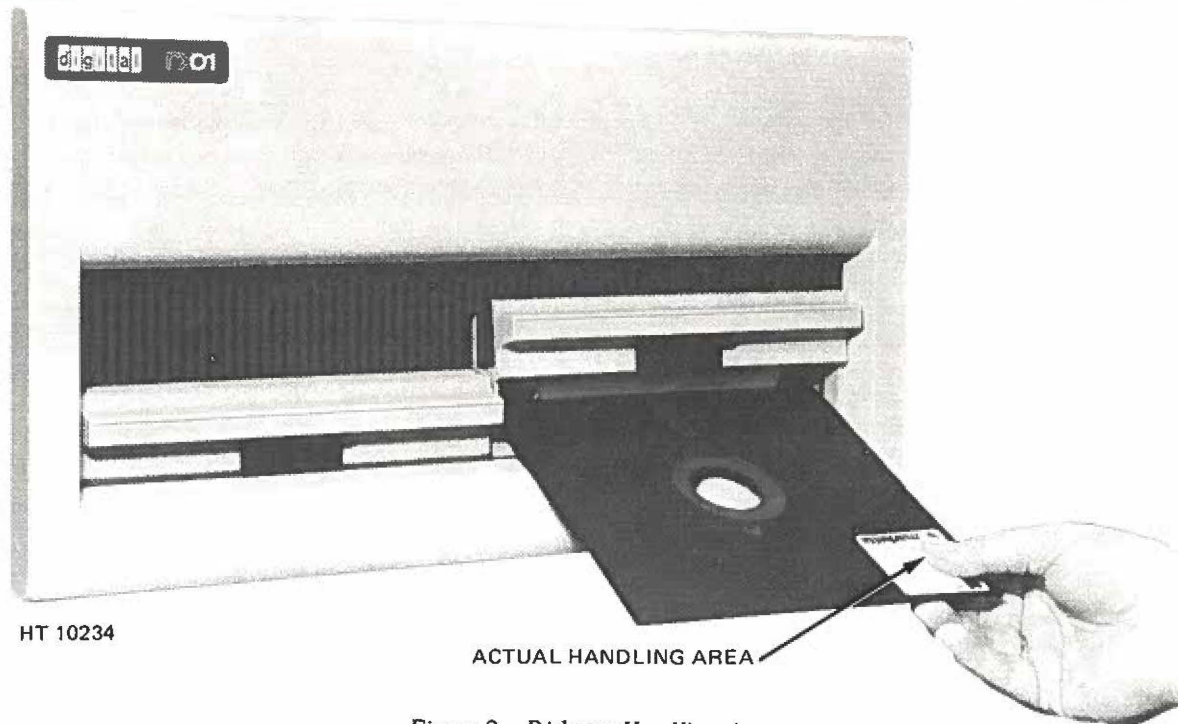

Figure 2. Diskette Handling Area
4. Do not touch any of the exposed diskette surfaces; handle only by the area intended for the operator (fig. 2).